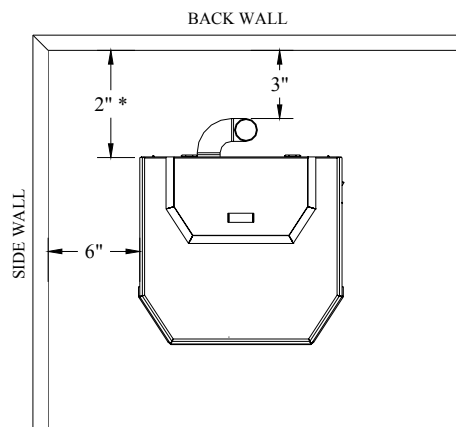

FIGURE 1
The Osburn Hybrid-45 MF has been tested and listed for installation in residential, mobile home.(refer figure 1 & 2)
1. Position stove, adhering to clearances shown in Figures 1 & 2.
5. Position the stove, adhering to the clearances in Figures 1 & 2.
1. Position the stove, adhering to the clearances in Figures 1 & 2. Mark the center of the hole where the pipe is to pierce the masonry chimney.